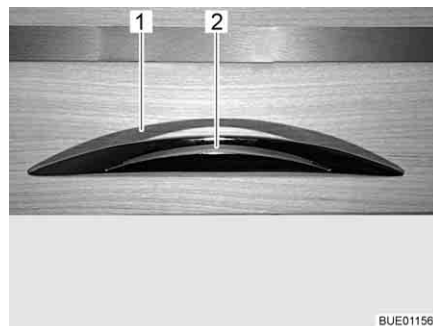

Fig. 49 Furniture flap with release handle
- Press the release handle (Fig. 49,2) and hold it down.
- Pull the release handle (Fig. 49,1) until the furniture flap is open.